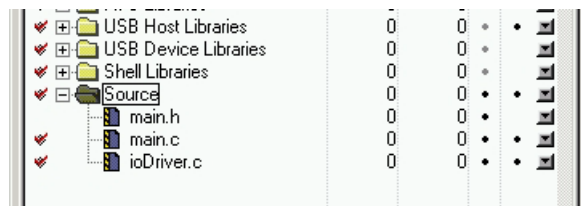

Figure 3. Adding ioDriver.c File to Project Directory Structure
3. In the project directory structure, search for the ‘Source’ folder. Right click and select “Add Files” and add the ‘`ioDriver.c`.’ When prompted with a pop up for “Add files to targets,” use the default of all targets and click OK. After adding the file, the directory structure must look like Figure 3.